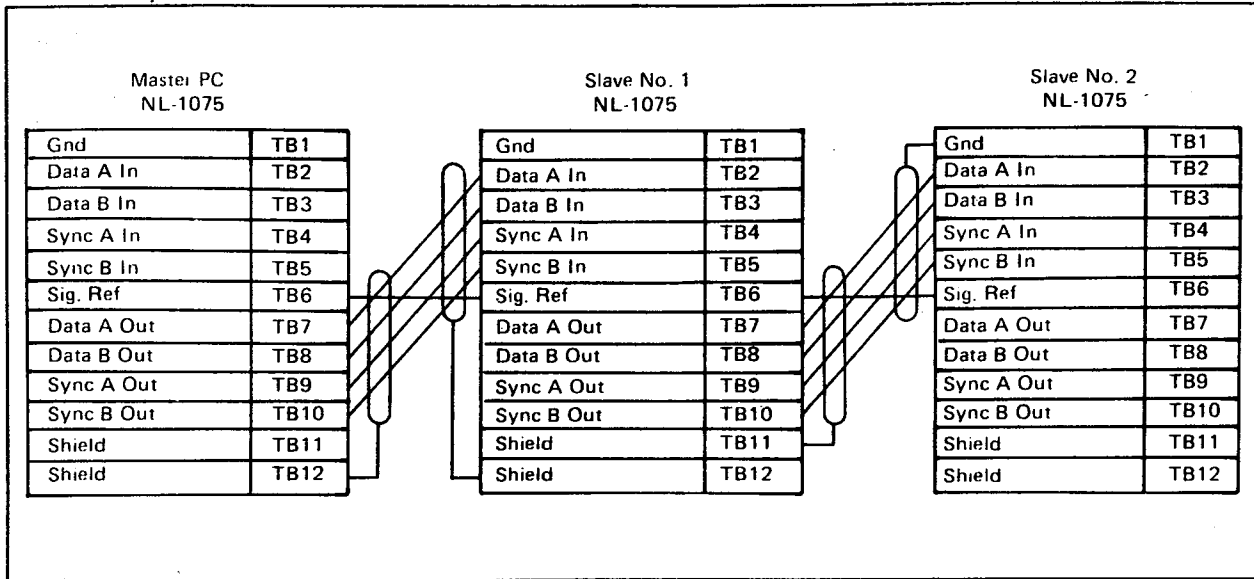

Figure 3-40. Typical PC-1100/1200 RS-485 Network
Figure 3-40 shows a typical RS-485 network (modem networking is described later in this section). Note that the Master controller may be positioned in any physical location in the link.
- When networking via RS-485, the Communication Expansion Board switches must be CLOSED in the controllers which physically terminate the network (e.g., Slave No. 1 and Slave No. 5 in Figure 3-40). In all others (in the middle of the physical link), these switches are OPEN.